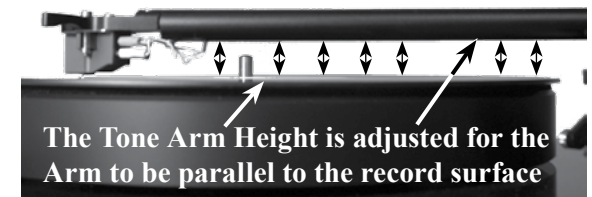

Figure 27
3. Release the Tone Arm from the rest and place it on a record and check to see if the Tone Arm is now parallel. Also check to make sure the Tone Arm is parallel to the record platter and the right side of the turntable base. Refer to figure 27.